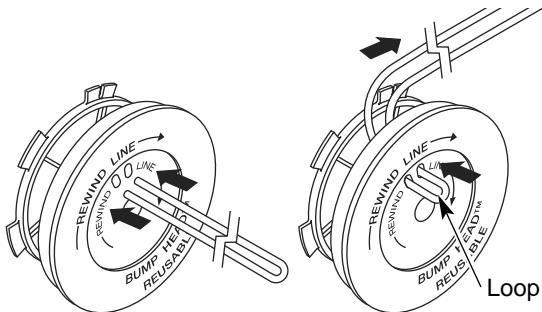

Fig. 18
6. Take approximately 16 feet (5 m) of new trimming line, loop it into two equal lengths. Insert each end of the line through one of the two holes in the inner reel (Fig. 18). Pull the line through the inner reel so that the loop is as small as possible.